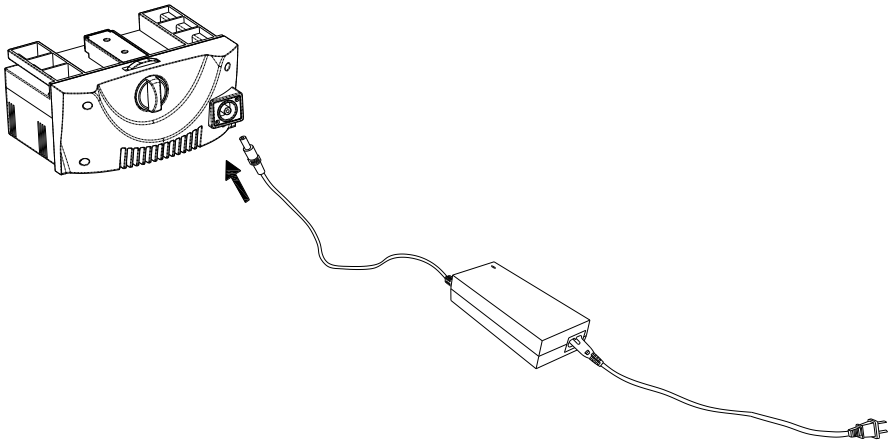

Fig 23
4. Plug the round connector on the charger's cord into the battery pack. (Fig 23)